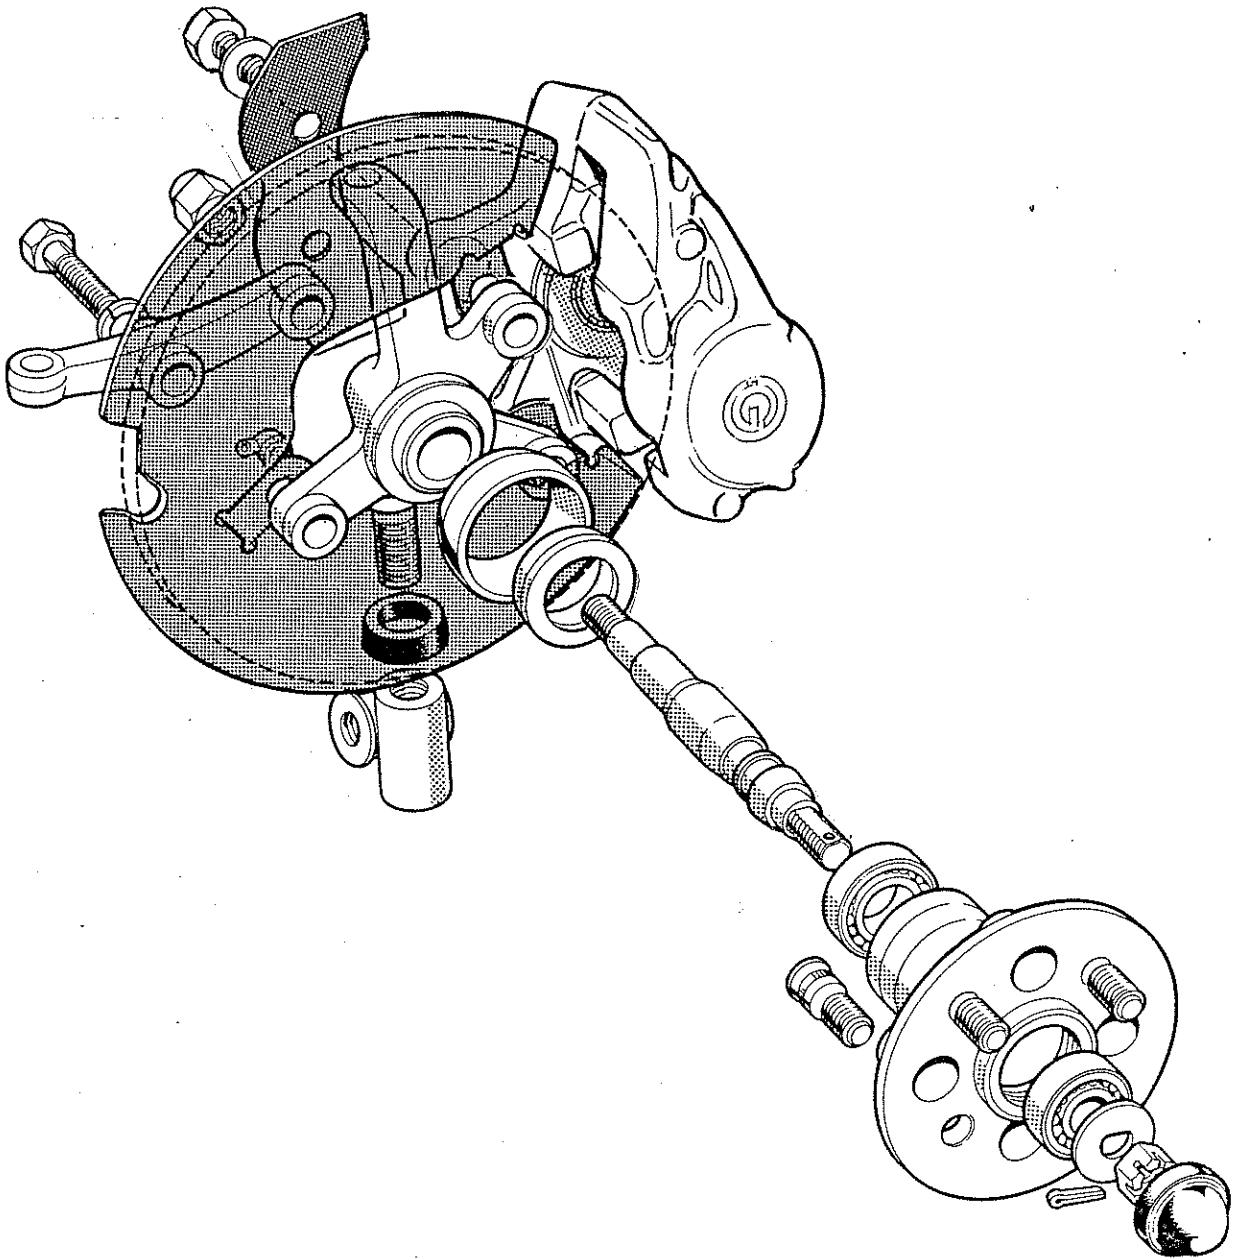

Fig. 4.4.1
4.1 Degrease one of the stub axles, which are not handed, using petrol or thinners and insert into upright as shown in figure 4.4.1.
5.1 Insert wheel studs into hub casting as illustrated in figure 4.4.1. These can either be lightly tapped into position with a small hammer or pulled into position using a wheel nut and a suitable plain washer to avoid damaging the hub face. On later kits, these may already have been fitted.